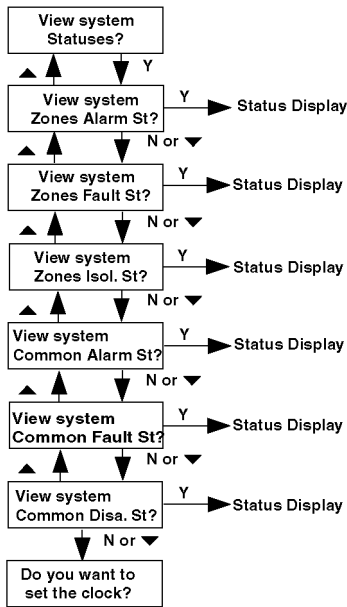

Fig. 5 'MINERVA' Controller - View System Statuses Menu
- 1) Either select the 'View System Statuses' option from the Main Menu. The menu shown in Fig. 5 will be displayed. The menu options are selected as described in section 3.4.1, or,